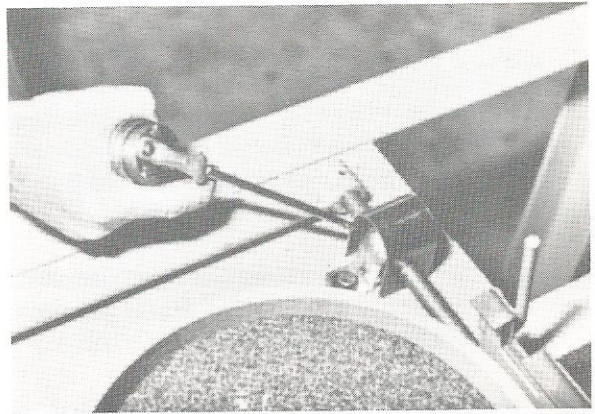

fig. 18
3. Apply a few drops of regular lubricating oil daily to the transport shaft felt seals (see fig. 18.)